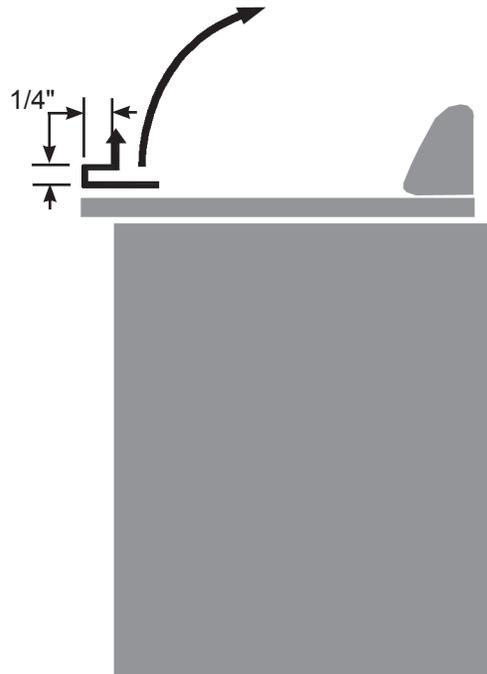

Figure 3
6. While still keeping it lifted, push the top back about  $\frac{1}{4}$  ", see figure 3.